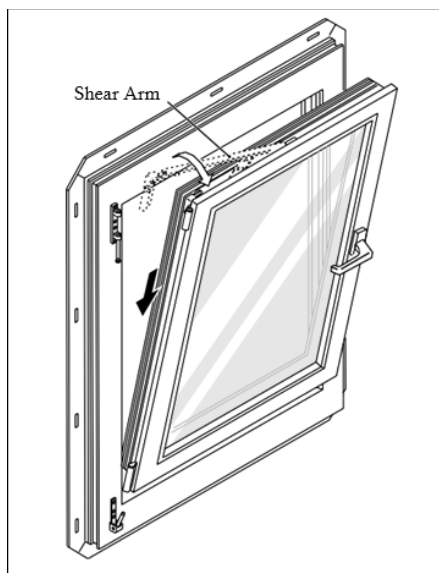

Figure 2-14. How to install the sash, and put the shear arm back into position
- 5.5 As you do this, the shear arm at the top of the sash may disengage. If this occurs, gently lift the arm upwards, align the arm parallel to the sash, and press the arm downward until it “clicks” into place. See fig. 2-14.
Make sure the shear arm is in position before you install the sash. See fig. 2-14.